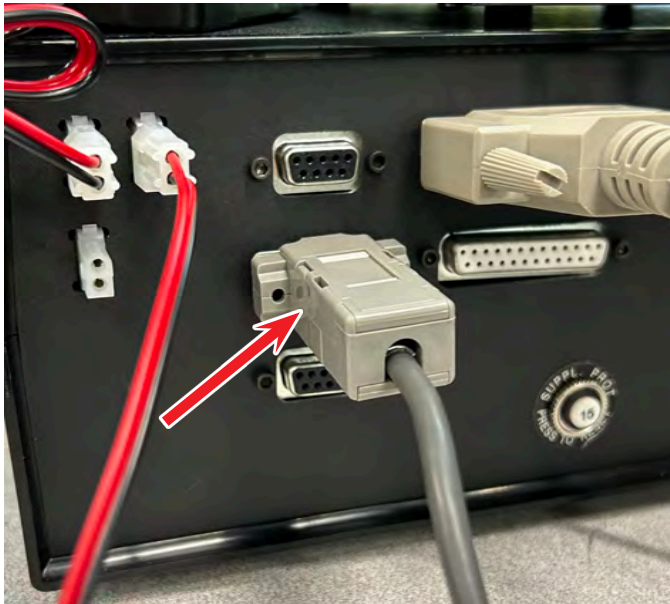

FIGURE 25—The red arrow shows the DB9 Encoder cable connected to the middle DB9 port on the Acorn Controller.
- B. Connect the DB9 connector on the end of the encoder cable to the middle DB9 connector on the backside of the controller (see Figure 25).